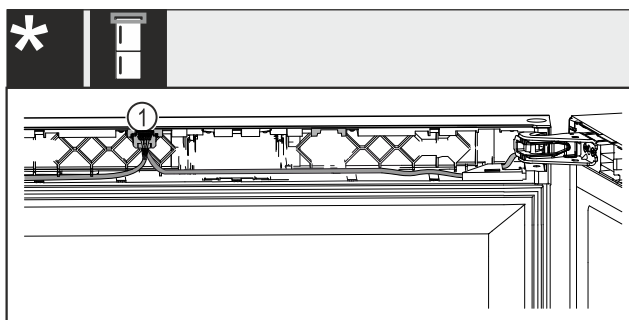

*Fig. 50 Wine-freezer combinations**
- ▶ Snap the plug *Fig. 50 (1)* into the guide.*